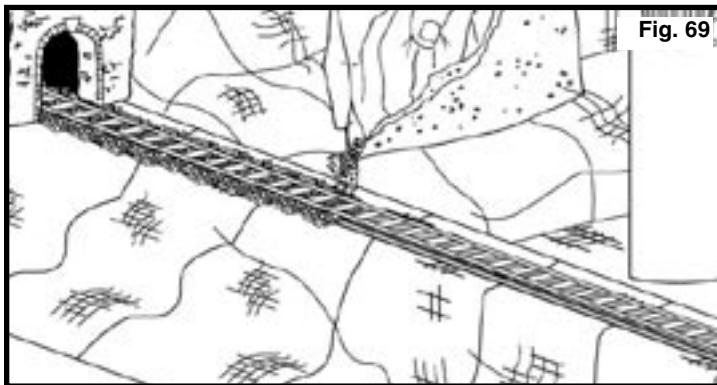

Fig. 69
- B. Start at Tunnel #1. Pour Ballast over track and ties, avoiding turnouts and switch machines (Fig. 69). Make sure Track-Bed is completely covered.